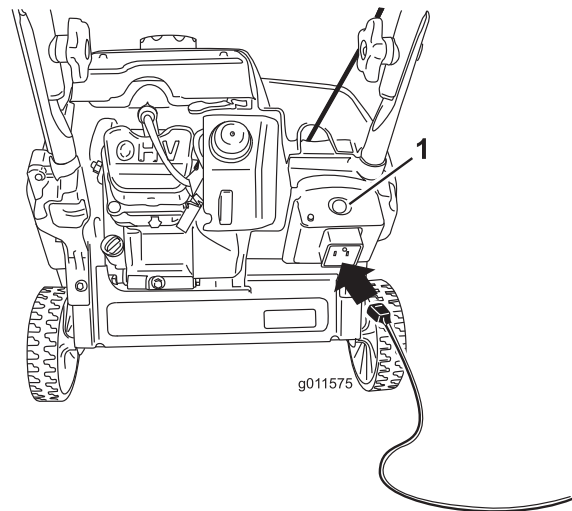
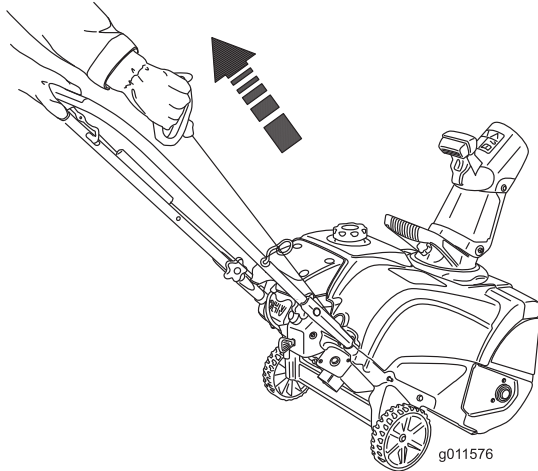

Figure 19
Figure 20
4. Connect an extension cord to a power source and the machine, and push the electric-start button (model 38283 only) (Figure 19), or pull the recoil start handle (Figure 20).